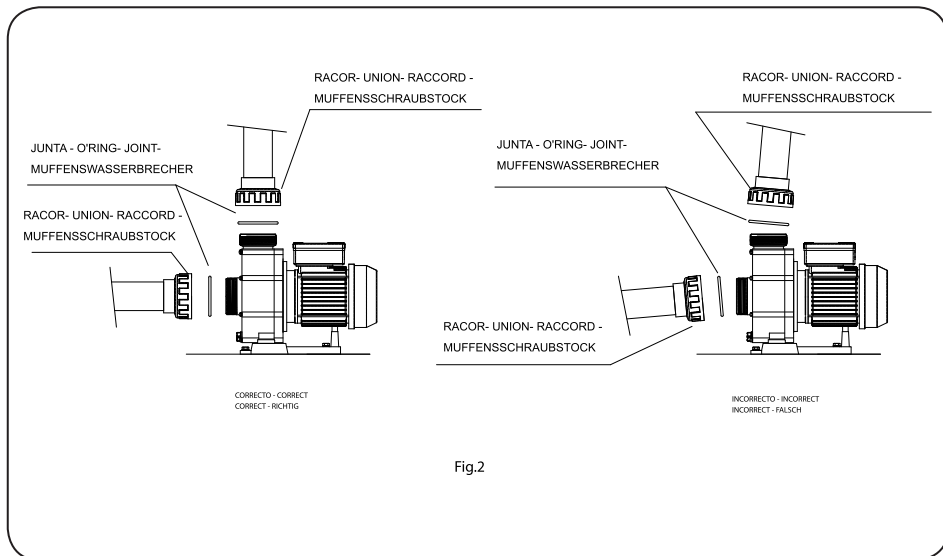

Fig.2
- The tubing connection must be stuck to the connecting pipe that is supplied along with the pump; joints from the connecting pipes with the suction and impulsion nozzles are of a screw-thread type and come with sealing joints to avoid water loss. (Fig. 2).
- Impulsion tube installation is done totally perpendicularly and is well centred with respect to the nozzle to be connected so as to avoid external pressure being exerted on the pump and the tube. Apart from making assembly more difficult, this pressure could even break them. (Fig. 2)
- Suction tube installation is done at a slight angle of 2 % towards the pump, thus avoiding siphon formation. (Fig.2).